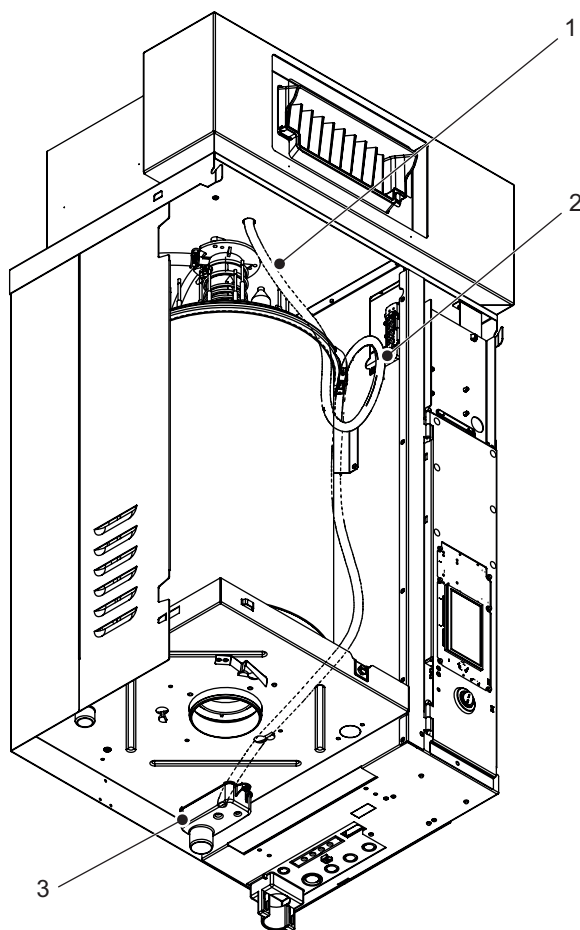

Figure 20: Condensate Hose Connections on Humidifier
- a. Connect the 8/12 mm diameter condensate hose (supplied) to the connection point provided in the humidifier drain cup. Secure the hose with a spring clamp (supplied). Refer to Figure 20.